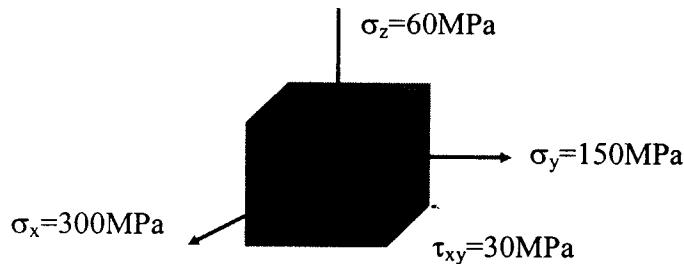

Figure 1 / Rajah 1
1. [a] Stress analysis of a spacecraft structural member gives the state of stress shown in Figure 1. If the part is made from 7075-T6 aluminum alloy with $\sigma_o = 600\text{MPa}$, will it exhibit yielding? If not, what is the safety factor?